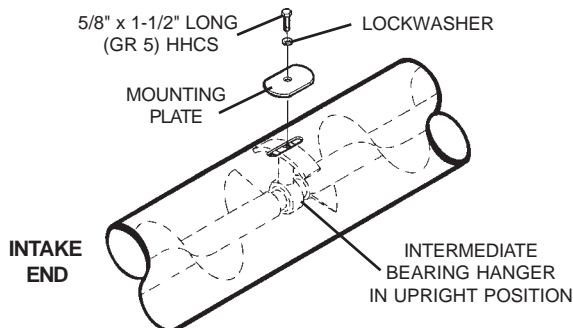
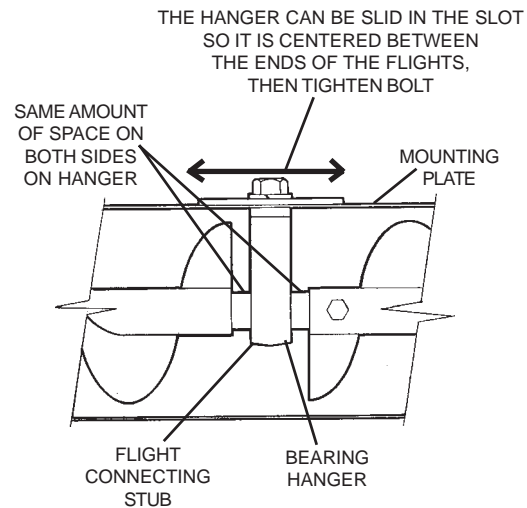

FIG. 10A
FIG. 10B
C. Attach the internal bearing hangers to the auger housing using a mounting plate, 5/8" x 1" long (grade 5) hex head capscrew and lockwasher per each hanger. See Fig. 10A. Before tightening the mounting bolts down, adjust the internal bearing hangers so they are centered between the ends of the auger flights. See Fig. 10B. This can be done by sliding the hanger back and forth in the slot to determine the approximate center.